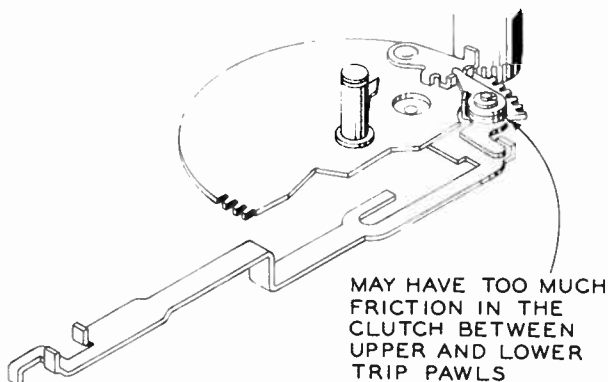

Figure V18.
8. **Rejects Too Soon:** See figure V18.